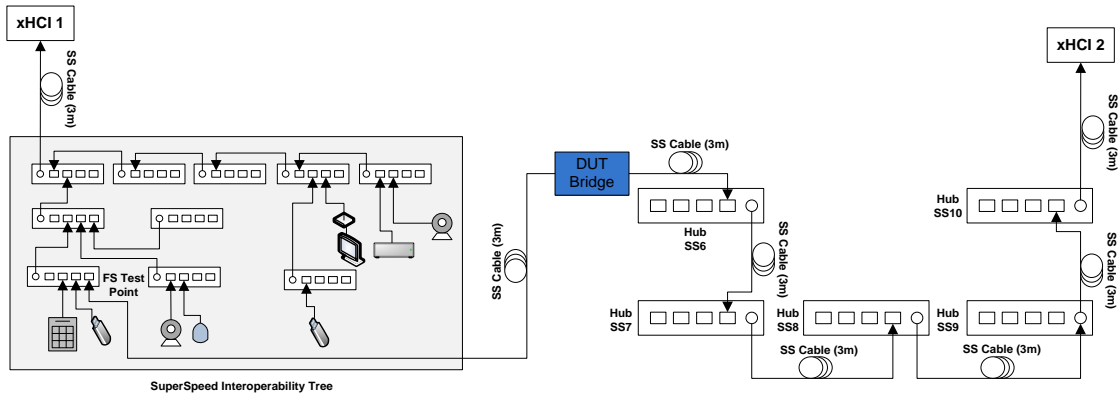

Figure 2-3: PC to PC Bridge Tree Topology Change 2
- While operating the devices, detach the Bridge from HS5 and attach it to FS1 on the PC to PC Bridge Interoperability Tree as shown in Figure 2-3.